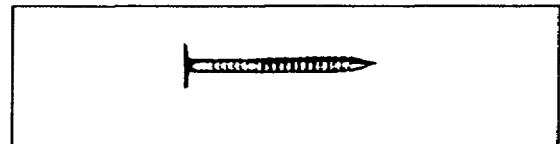

Figure 1-30. Drywall nail
(3) Special Nails. Rustproof nails are sometimes used when the head is exposed to the weather. The head often rusts and causes a black streak along the grain of the wood, even though it is painted. Therefore, it is desirable to use a nail that will not rust. Plain wire nails that have a zinc coating are often used where there is a possibility of rusting. These are called *galvanized nails* (such as a roofing nail).
(4) Drywall Nails. Drywall nails (Figure 1-30) are used for hanging drywall and have a special coating to prevent rust.